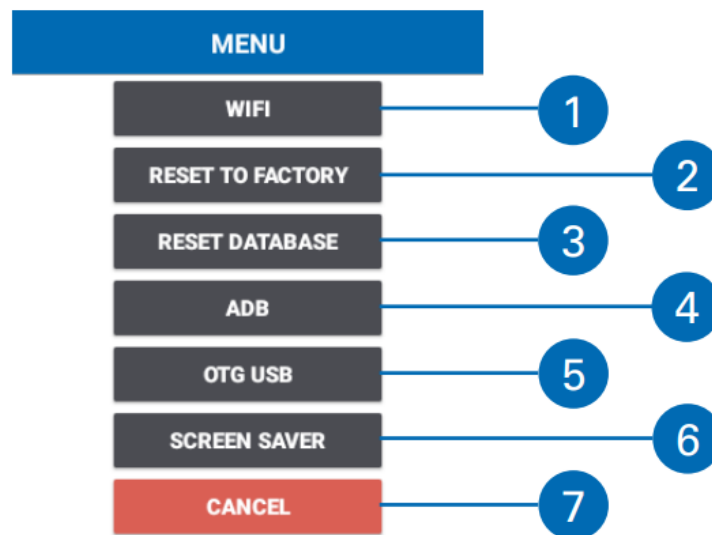

Fig. 8
2. Enter your password in the field “Admin password...” (by default: 123456) and tap “Done”. The configuration menu (Fig. 8) opens.
When selecting the “WIFI” submenu in the configuration menu (Fig. 8), the WiFi hotspot connection state is displayed on the left side, as illustrated below:
1. In the configuration menu (Fig. 8), tap "ADB". The following window appears:
1. In the configuration menu (Fig. 8), tap “OTG USB”. The following window appears:
1. In the configuration menu (Fig. 8), tap “SCREEN SAVER”. The following window appears: